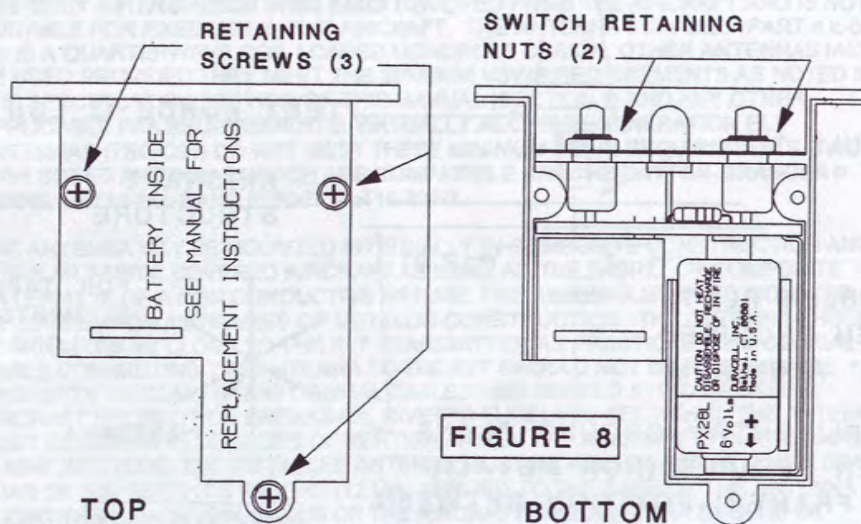

FIGURE 8
1. REMOVE THE THREE RETAINING SCREWS WHICH SECURE THE TOP AND BOTTOM HALF OF THE RCPI UNIT. (FIGURE 8)
2. LOOSEN THE TWO SWITCH RETAINING NUTS LOCATED ON THE FRONT OF THE UNIT. (FIGURE 8)
3. CAREFULLY REMOVE THE TOP HALF OF THE RCPI UNIT EXPOSING THE BATTERY COMPARTMENT. (FIGURE 8) IF REPLACING AN OLD BATTERY CAREFULLY INSPECT THE BATTERY CONTACTS FOR DIRT OR CORROSION. IF THE CONTACTS NEED CLEANING USE ONLY NON ABRASIVE ELECTRICAL CONTACT CLEANER AND A STIFF BRUSH. ABRASIVE CLEANERS WILL REMOVE THE NICKEL AND GOLD PLATING FROM THE CONTACTS. BADLY CORRODED CONTACTS SHOULD BE REPLACED.
4. INSERT THE BATTERY WITH THE POLARITY AS SHOWN IN FIGURE 8. THE POLARITY IS ALSO ENGRAVED ON THE BOTTOM OF THE BATTERY COMPARTMENT.